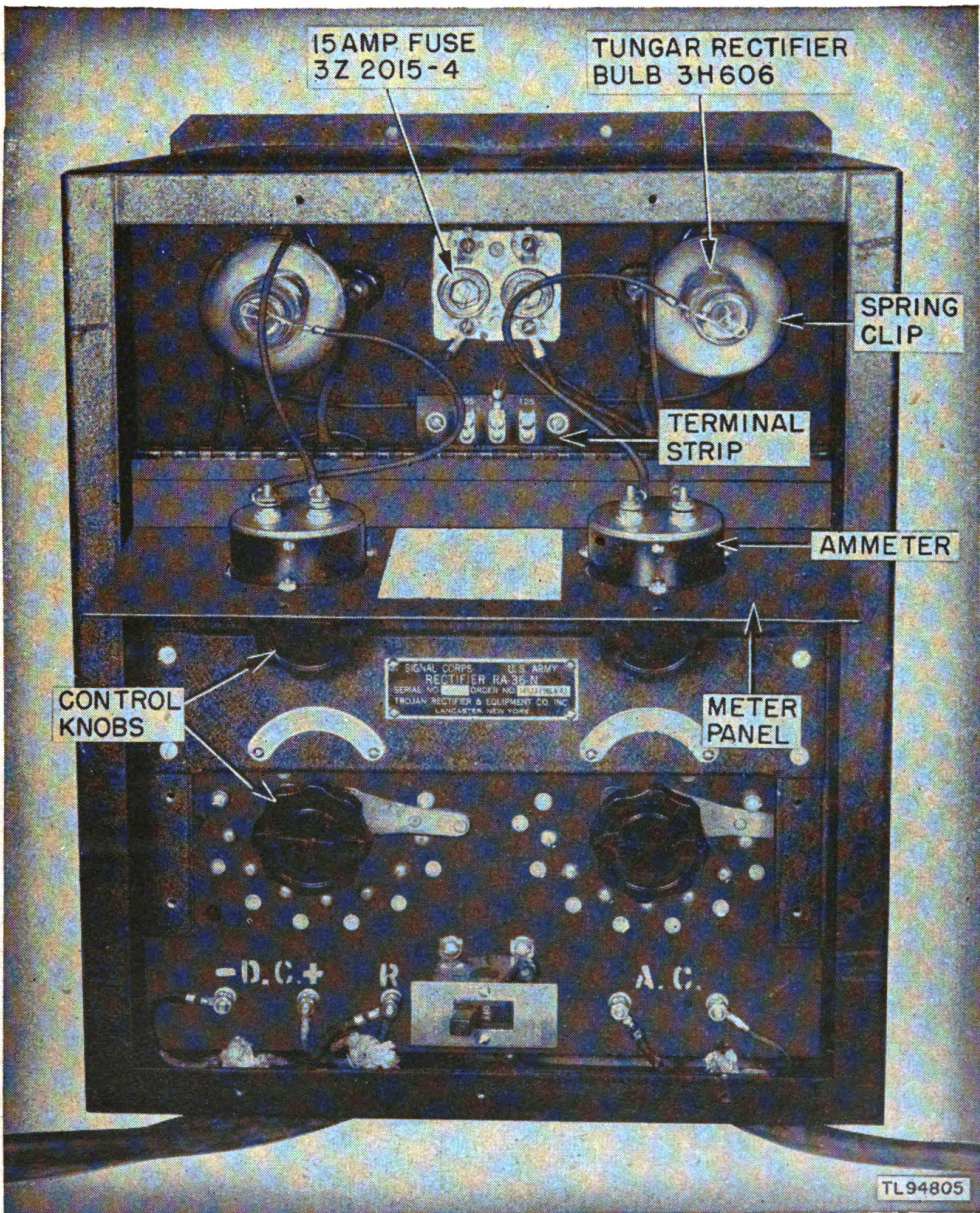

Figure 1. Rectifier RA-36-N, panel open.
b. Rectifier RA-36-N (fig. 1) has four tap switches for controlling the charging rate. (See par. 13.) (The top front panel is the meter panel which swings down making accessible the rectifier bulbs, fuses, and input-voltage-compensating terminal strip. Below the transformer and bolted to the back wall of the rectifier case are two iron-core reactors. (See fig. 10.) Three rubber-covered cords extend from the bottom of the rectifier case for connection to the a-c power source, battery circuit, and external reactor. (See par. 10.) This unit is wired to operate as a full-wave rectifier only.
(2) On Rectifier RA-36-N the terminal strip is located on the top of the panel. (See fig. 1.)
*a.* RECTIFIER RA-36-N. Remove the two screws in the top of the rectifier front panel directly above the meters, and open this hinged panel. Open and close this panel carefully because of the meters on it. (See fig. 1.) Remove two rectifier bulbs (fig. 8) from their cartons and screw them tightly into the two bulb sockets accessible. Connect the spring clips, attached to the leads from the meters, to the wires extending through the tops of the bulbs. See that the right-hand clip is connected to the right-hand bulb and the left-hand clip to the left-hand bulb. Screw two of the fuses supplied tightly into the fuse receptacle. Check that the lead on the small input voltage-compensating terminal strip is tightly fastened. (See par. 10.) Check that the control knobs work freely enough for operation. Finally, close the panel and fasten with screws.